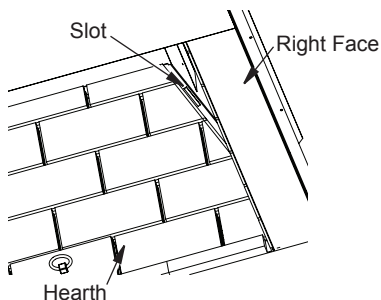

Figure 14 - Slots for Firebrick Walls
2. Install the left and right firebrick walls. There is a bracket with 2 tabs on the bottom of each firebrick wall. Angle the wall into the fireplace opening and into the slots on the side of the hearth (Figure 14), then tilt the top of the panel toward the firebox surround.